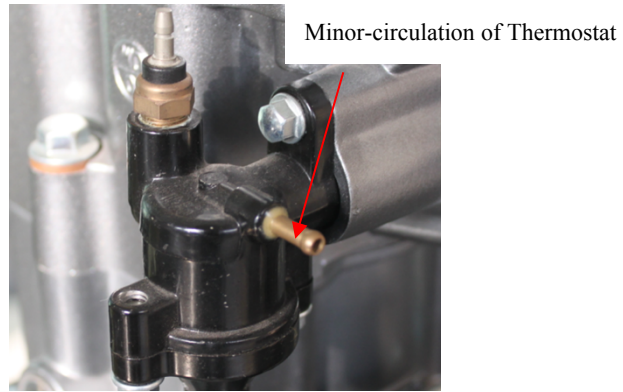
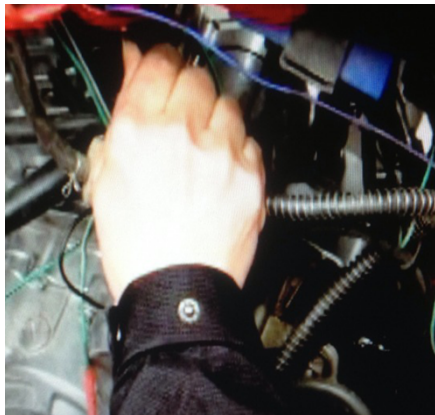

Figure 1
Figure 2
1) First uncover the cover of vehicle tank, remove minor-circulating water pipe at the thermostat (Figure 1 and Figure 2);
2) Add cooling water at the cover of the tank, and observe if minor-circulating water outflows normally. The air in water circulation is not completely drained if minor-circulating water doesn't outflow when added water overflows from the cover of the tank. The pipe bend between the secondary kettle and the tank is required to be tightly clenched at the moment, blow towards the opening of water tank on tank cover mouth, loosen the pipe bend between the secondary kettle and the tank when temperature gas-saving minor circulation flows, continue to add cooling water inside the opening of the tank until the water at the thermostat completely flow linearly (Figure 2) and no air bubble generates at the opening of the tank; restart the engine, press the accelerator with your foot at neutral tap position to have the revolution speed of the engine below 4000 rmp, check if there is a pressure at the water outflow of minor-circulation. Confirm if the water is circulated, connect the minor-circulating water pipe at the thermostat when the water is circulated, and secure it with the clamp spring, and continue to add water to the tank until the waster fill out.